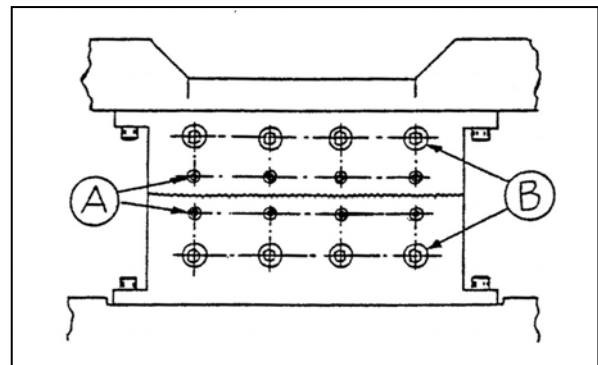

Figure 3-6
5. If the anvil is being replaced, remove the old anvil (Fig. 3-6) by loosening set screws "A" and remove anvil. Install new anvil and adjust height using cone screws "B", so that the top of the anvil is just below the top of the crimper face.
8. To adjust the diagonal knife, loosen the set screws "A" (Figure 3-6), holding the knife in the crimper. Adjust knife by turning the cone screws "B" clockwise to bring the knife into contact with the anvil along the full length of the anvil.